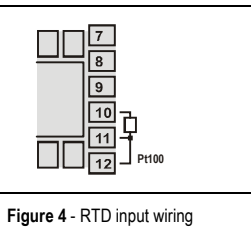

Figure 4 - RTD input wiring
**Figure 4** shows the Pt100 wiring, for 3 conductors. Terminals 10, 11 and 12 must have the same wire resistance for proper cable length compensation. For 2 wire Pt100, short circuit terminals 11 and 12.